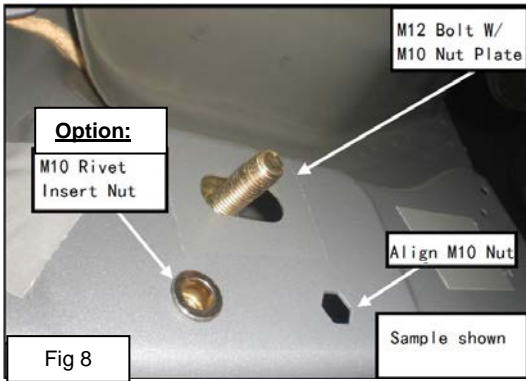
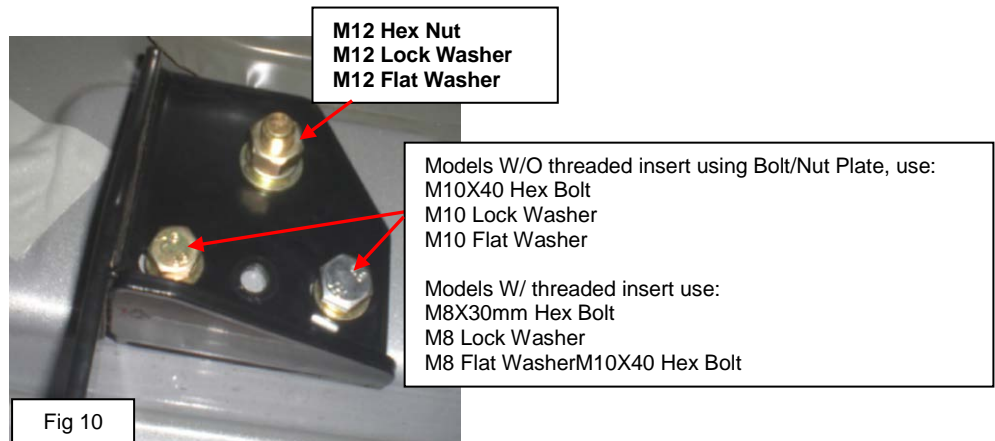

Fig 8
Fig 10
6	<p>Move to the Driver Center Bracket (LC). For Models without factory threaded inserts on the body panel: Select (1) M12 Bolt W/ Nut Plate, repeat Step 3 to install the Bolt W/ Nut Plate(Fig 8). Attach the driver Center Bracket (LC) to the Bolt W/ Nut Plate with (1) M12 Flat Washer, (1) M12 Lock Washer & (1) M12 Hex Nut. (Fig 10). Do not tighten hardware at this time. Option: Insert a M10 Rivet Insert Nut into the hole on rocker panel, and secure the Center Bracket with (1)M10X30mm Hex Bolt, (1) 10mm Flat Washer, (1) 10mm Lock Washer.(Fig 8 ,9&10) For Models with Factory threaded inserts on the body panel (Fig 4): Attach the Driver Centre Mounting Bracket (LC) onto the threaded insert with (2) M8X30mm Hex Bolt, (2) M8 Lock Washer & (2) M8 Flat Washer (Fig 10). Leave the hardware loose.</p>